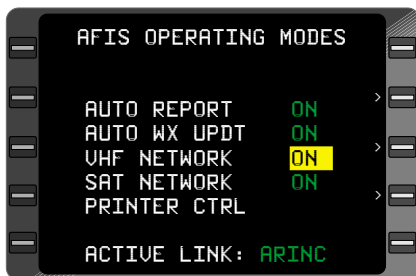

Figure 7-92
4. Line Select Key - DEPRESS to position cursor over **ON** option of **VHF NETWORK** field. (Figure 7-92)